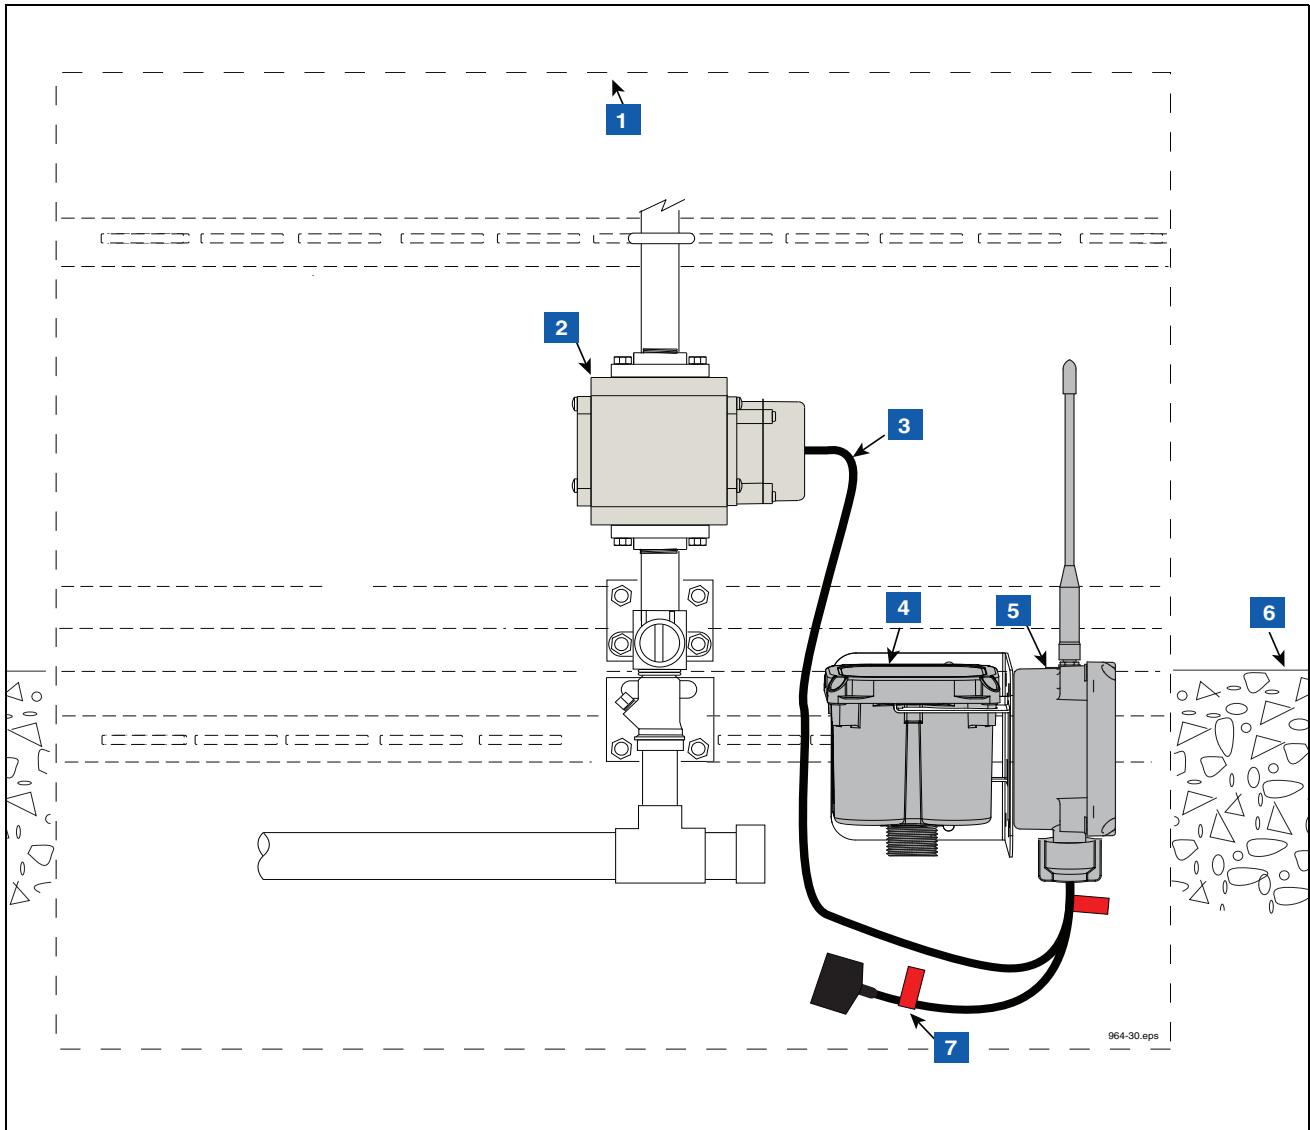

Figure 25. Example VFM Transmitter Installation in Dispenser
3. Determine a support location within the dispenser cabinet that will allow you room for the transmitter/battery support bracket. Clamp the bracket to an available support structure (see Figure 25).
5. Determine a support location within the dispenser cabinet that will allow you room for the transmitter/battery support bracket. Clamp the bracket to an available support structure (see Figure 25).
6. Rotate the Transmitter antenna as close as possible to a horizontal position then tighten two mounting screws in housing. (Transmitter shown in vertical position in Figure 25 to identify the connectors. Rotate to horizontal position before securing it to the bracket).
LEGEND FOR NUMBERED BOXES IN Figure 25
2. Make sure the battery/DC power cable is not connected to the battery pack (item 5 in Figure 25) or DC power source at this time.